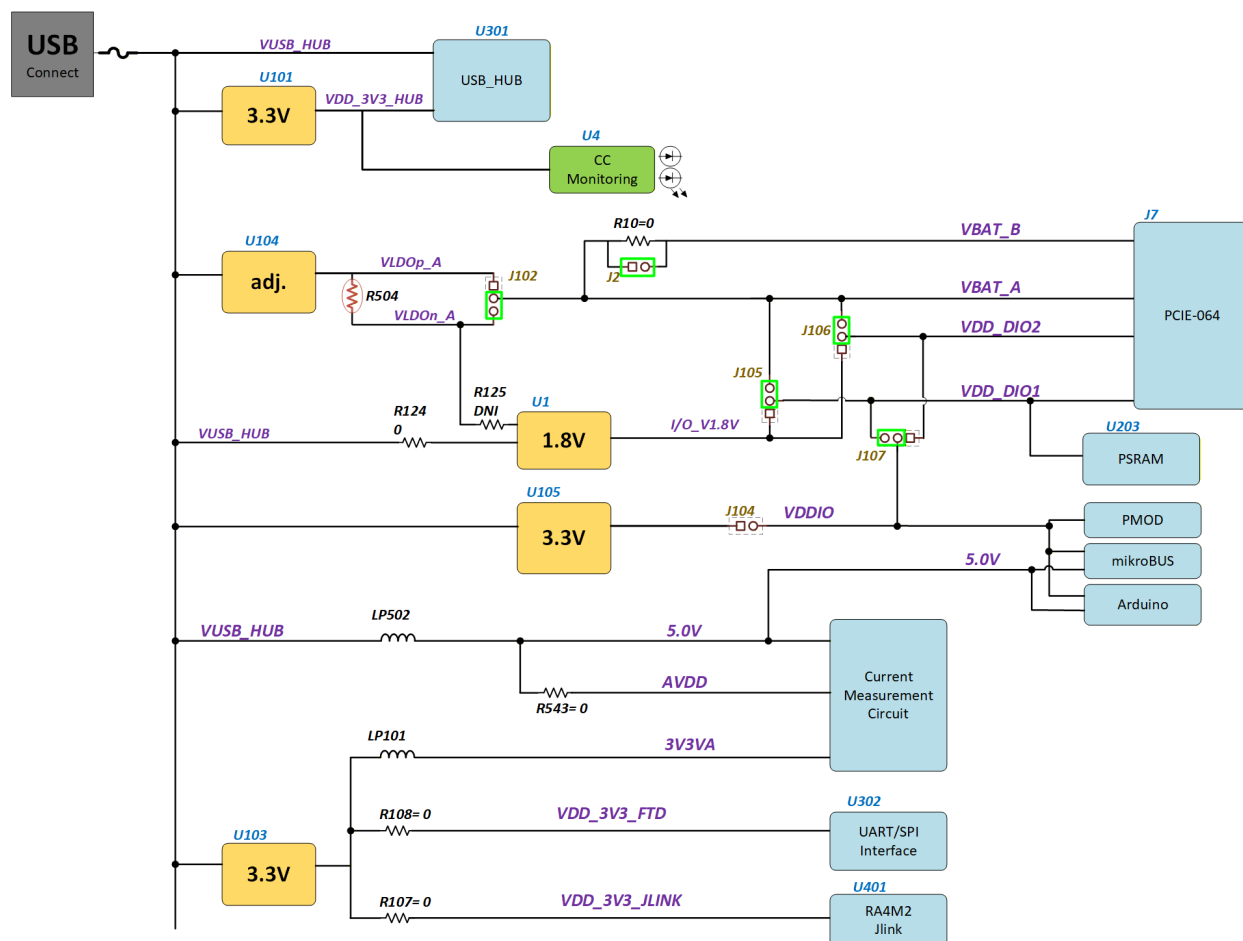

Figure 8. EK - RA6W1 Motherboard power tree block diagram
The power tree of the EK - RA6W1 Motherboard, Figure 8 consists of several power domains, the VUSB_HUB (=5 V) power supply, the 3.3 V voltage rail supply for the supporting circuits of Motherboard (RA4M2-jlink, USB Hub, FTDI), the main supply for Daughterboards (VBAT_A and VBAT_B), the I/O voltage supplies for Daughterboards (VDD-DIO1, VDD_DIO2) and the I/O voltage supply for interfaces (PMOD, MikroBUS and Arduino).
- J102: provides VBAT_A, the main power supply for the Wi-Fi subsystem voltage. VBAT_A is equal to 3.25 V and it is supplied from a 1 Amp DCDC converter (U104), see Figure 8.